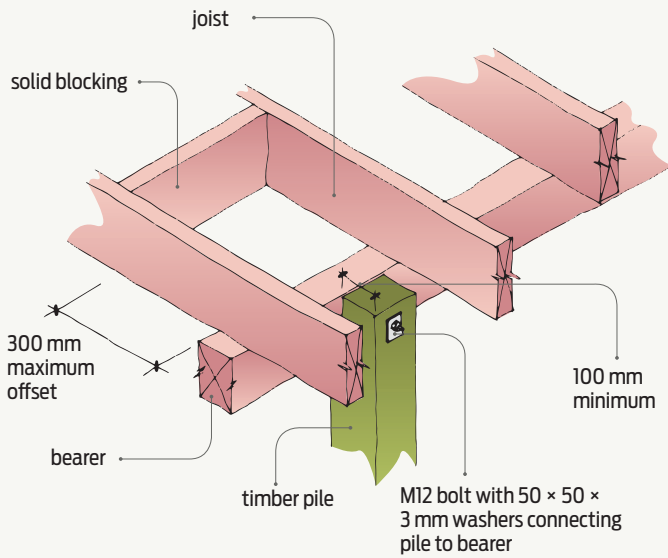

Figure 2 Lateral support offset from brace line (redrawn from NZS 3604:2011 Figure 6.10).
- within 300 mm of subfloor bracing lines (see Figure 2)